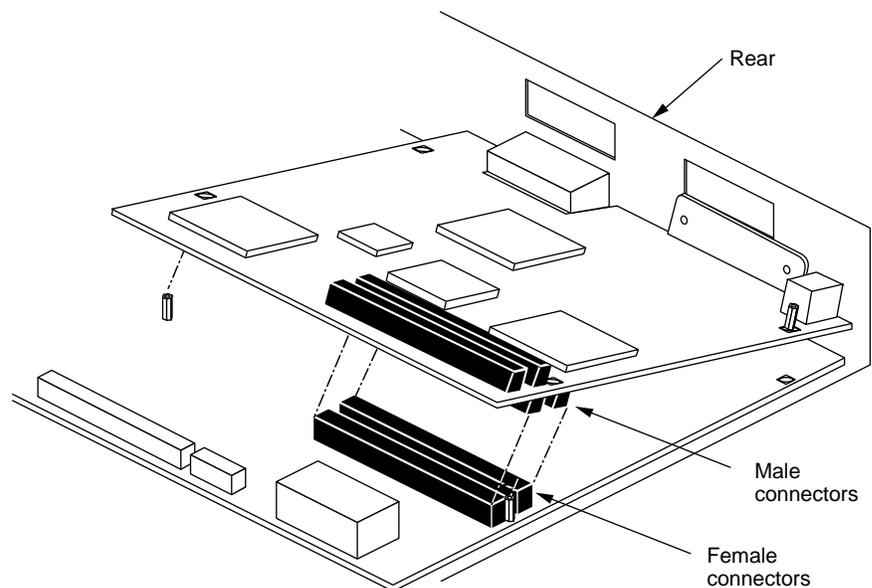

Figure 2-3 Positioning the Z Board Over the System Board
- Grasp the Z board by the sides, with the two 96-pin male connectors on the underside, as shown in Figure 2-3.
- Loosely place the Z board on top of the system board so that the two male connectors on the underside of the Z board align with the two female connectors on the system board, as shown in Figure 2-3.